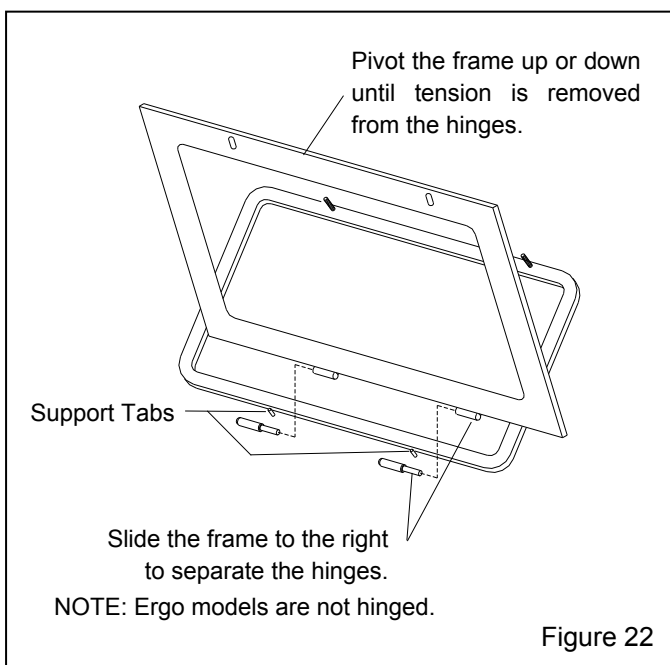

Figure 22
7.6 Window Frame Removal, Figure 22
7.6.4 To remove, slide the frame to the right. The hinges separate as shown in Figure 22.